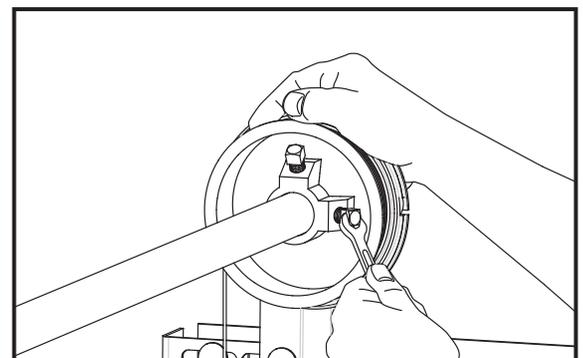

Fig: 3.7.3
h) Once the cable is taut, slide the cable drum against the side bearing bracket and tighten the screws to the torsion bar. Fig 3.7.3.